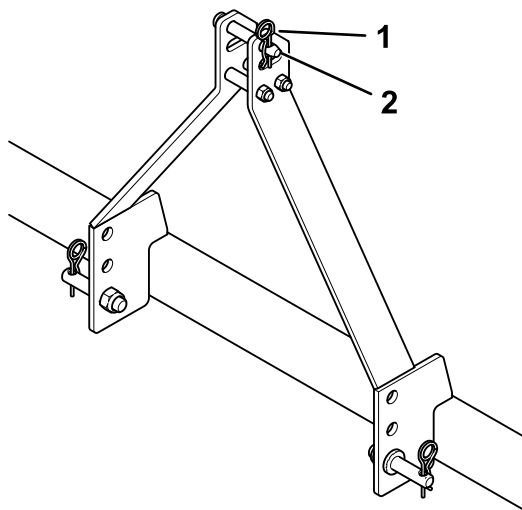

Figure 6
2. Remove the hairpin cotters from the hitch pins (Figure 6).